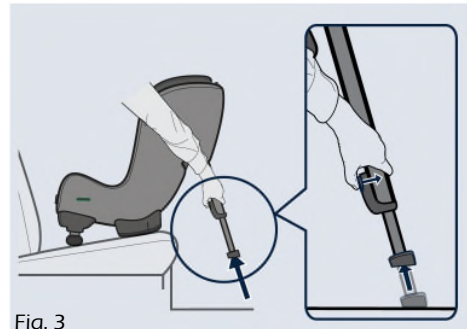

Fig. 3
To install the lower tether anchorage straps (S), simply route the strap around the chosen anchorage point and thread the metal anchorage through one of the slots on the strap itself (Fig. 3). The anchorage strap has several slots to use. Make sure to use the slot as close as possible to the metal anchorage, thus installing the metal anchorage as close to the vehicle floor as possible. Once this is done, pull on the metal anchorage to tighten the strap and repeat the process for the other strap. Always use two anchorage points when installing HERO-XL and choose anchorage points that are separated as this gives a more stable installation.
3) Push the support leg button (Q) and collapse the support leg (P) to its shortest position (Fig. 3)